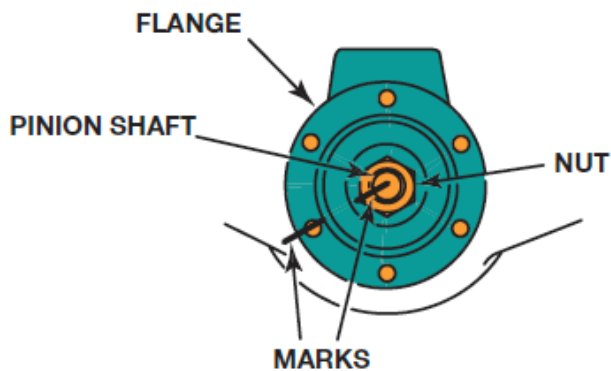

Figure 11. Reference marks.
- Mark the pinion flange, pinion nut, and the pinion shaft before removing the pinion nut. Figure 11.